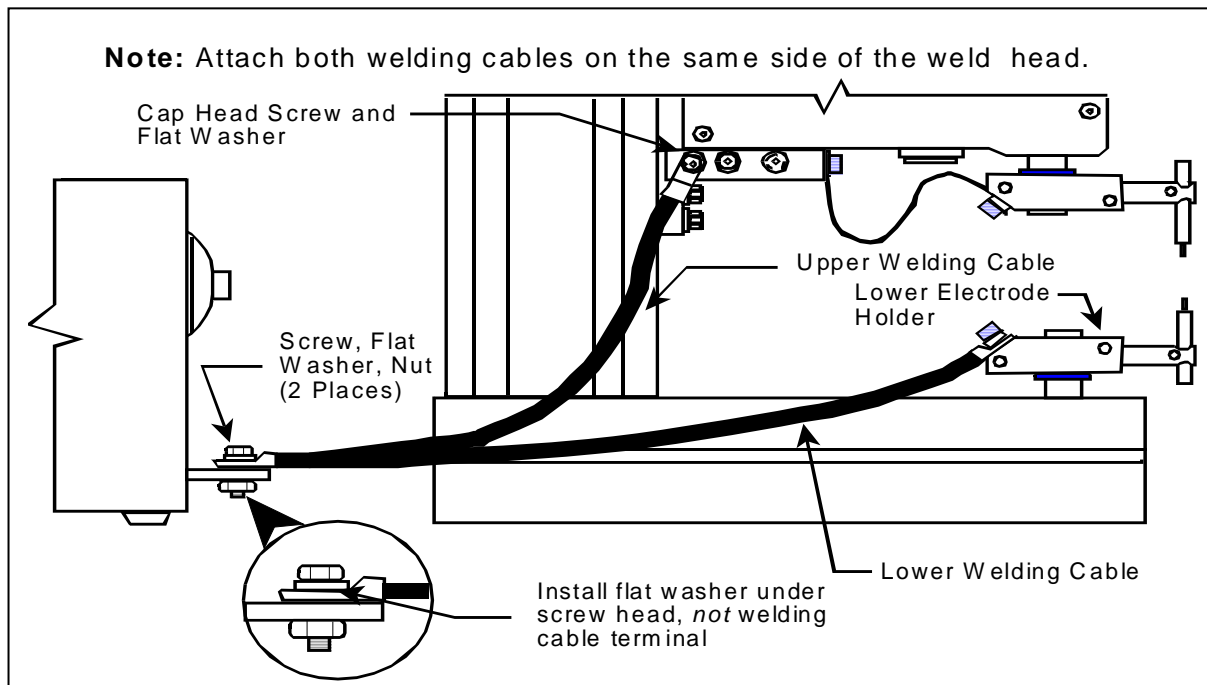

Figure 2-2. Terminal Connection Examples
- Bolt connections directly together. Do not place washers between the terminals of the output transformer and the terminals of the cables. Tighten connections securely, they must be free from oxidation, dirt and/or grease (see figure 2-2).